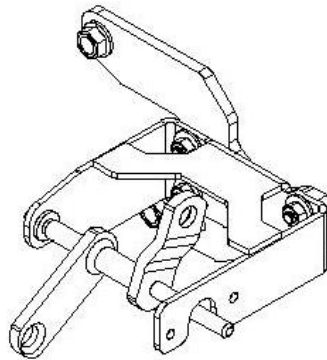

Figure 6
34. Locate transfer case linkage u-bracket, mounting plate, and hardware kit 119 (figure 6).